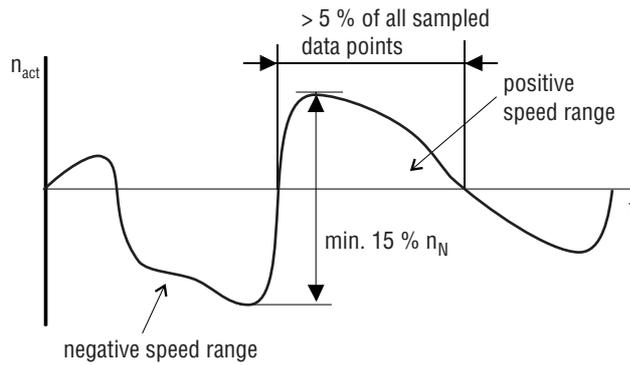

Figure 14: Calculating the load moment of inertia reduced to the motor shaft
- 3) Check whether a minimum of 5% of all sampled data points are within one speed range. Of 2048 sampled data points a minimum of 308 points must be within one speed range (see also Figure 14).